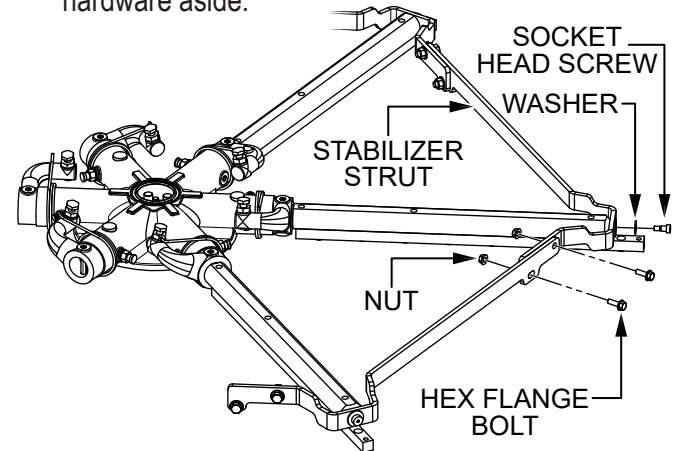

Figure 47. Stabilizer Ring Removal
- Remove the hardware securing the **stabilizer struts** to the trowel arms (Figure 47). Set the struts and hardware aside.